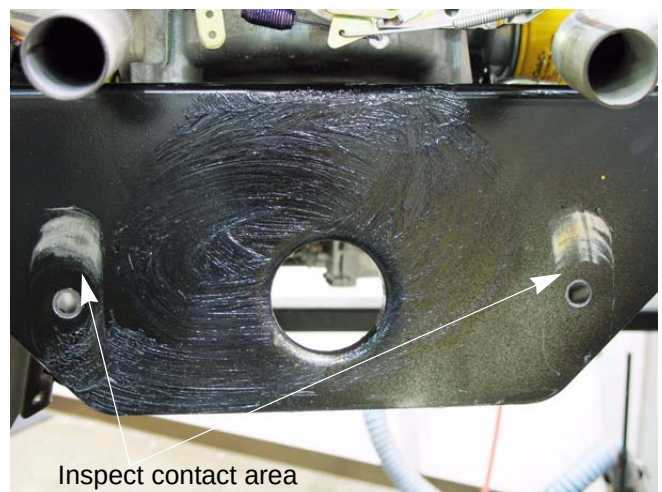

Figure 6.36
8. Inspect the contact areas where the pivot bar meets the frame. If there is any material that has erupted, sand it down. Repeat inspection on the inside of the pivot bar bracket. See Figure 6.36.